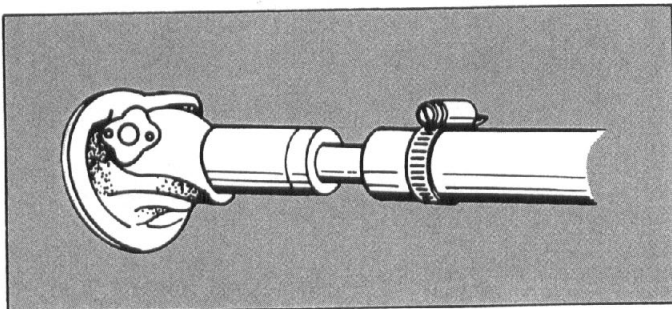

Figure 11. Weight attached to shaft to determine drive line balance.
3. Unbalanced drive lines can cause vibration that occurs throughout the speed range of vehicle and varies in intensity with change of speed. The drive line may be at fault in respect to balance and concentricity. A quick field check to determine drive line balance can be made by securing a small piece of metal or similar weight with a hose clamp to the front of the tube where the splined shaft is welded, Figure 11. Road test the vehicle and continue to move the weight around tube until balance point is found and vibration disappears, or is minimized.